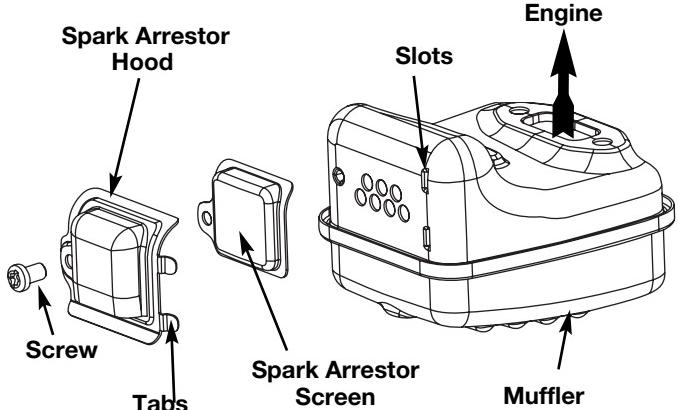

Fig. 37
2. Locate the muffler, but do not remove it. Find the screw on the bottom of the muffler (Fig. 37). Remove the screw using either a torx #20 or flat blade screwdriver.